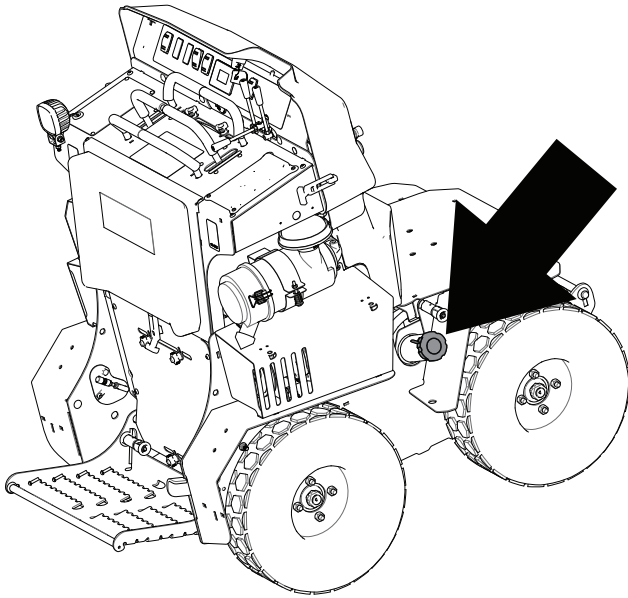

Figure 12
- Clean around the fuel-tank cap and remove it (Figure 12).